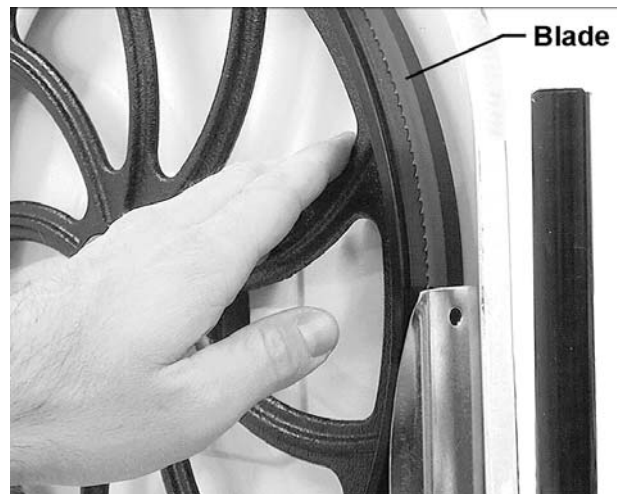

Figure 9
2. Open top blade cover. Rotate the wheel forward and observe the position of the blade on the wheel - it should be in the center of the wheel. See Fig. 9.